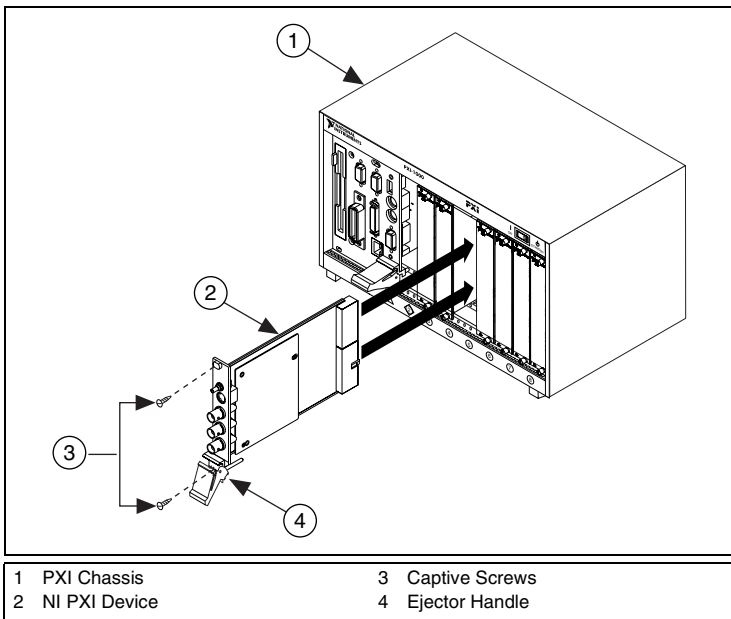

Figure 1. PXI Installation
5. Holding the device by the ejector handle, slide it into an empty slot, ensuring that the base card (the card on the left when looking at the front of the device) engages with the card guides in the chassis, as shown in Figure 1.